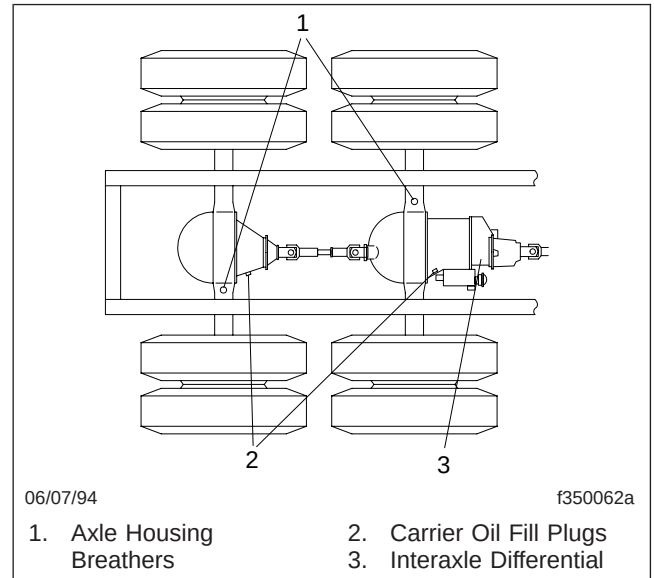

Fig. 1, Fill Hole Plug and Axle Housing Breather Locations
1. Clean the oil fill hole plug, located in the carrier or the side of the axle housing, and the area surrounding it (**Fig. 1**). Remove the plug.